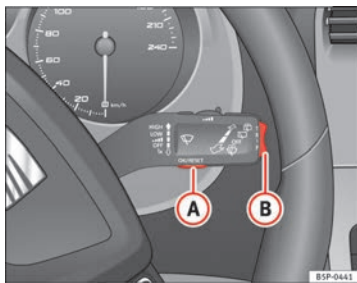
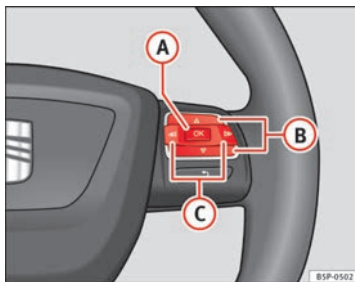

Fig. 44 Windscreen wiper lever: button A to confirm the menu selection and rocker switch B to change the menu
Fig. 45 Steering wheel controls: button A to confirm the menu selection and switch B to change the menu
- To access the “Configuration” menu, press button **(C)** ⇒ fig. 45 until the menu is displayed. Now you are in this menu.
- To change from one memory to another, briefly press button **A** ⇒ fig. 44 ⇒ page 67 on the windscreen wiper lever or the **OK** button on the multifunction lever ⇒ fig. 45 ⇒ page 67 while the ignition is switched on.
The following data can be viewed on the multifunction display using the rocker switch **(B)** ⇒ fig. 44 ⇒ page 67 on the windscreen wiper lever or by pressing button **(Δ)** or **(▽)** ⇒ fig. 45 on the multifunction steering wheel\*.